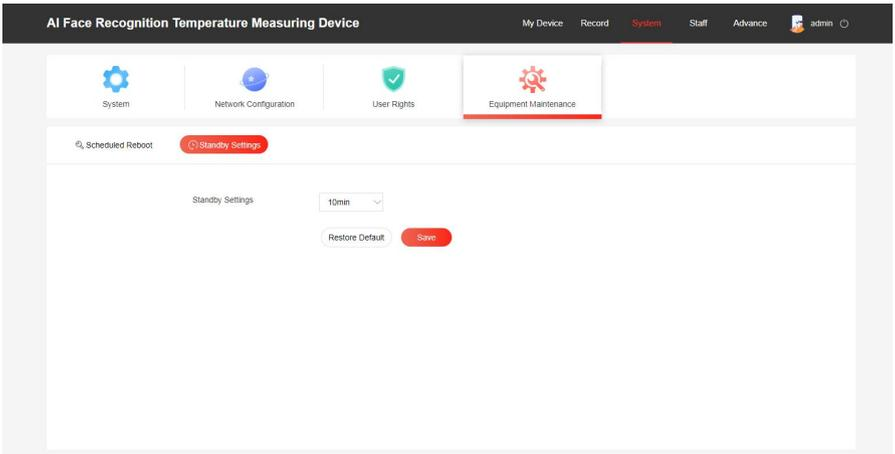

Figure 7-21
Step 1: After logging in to the web page, click "System → Equipment Maintenance → Standby Settings" to enter the standby setting interface, as shown in Figure 7-21 below.